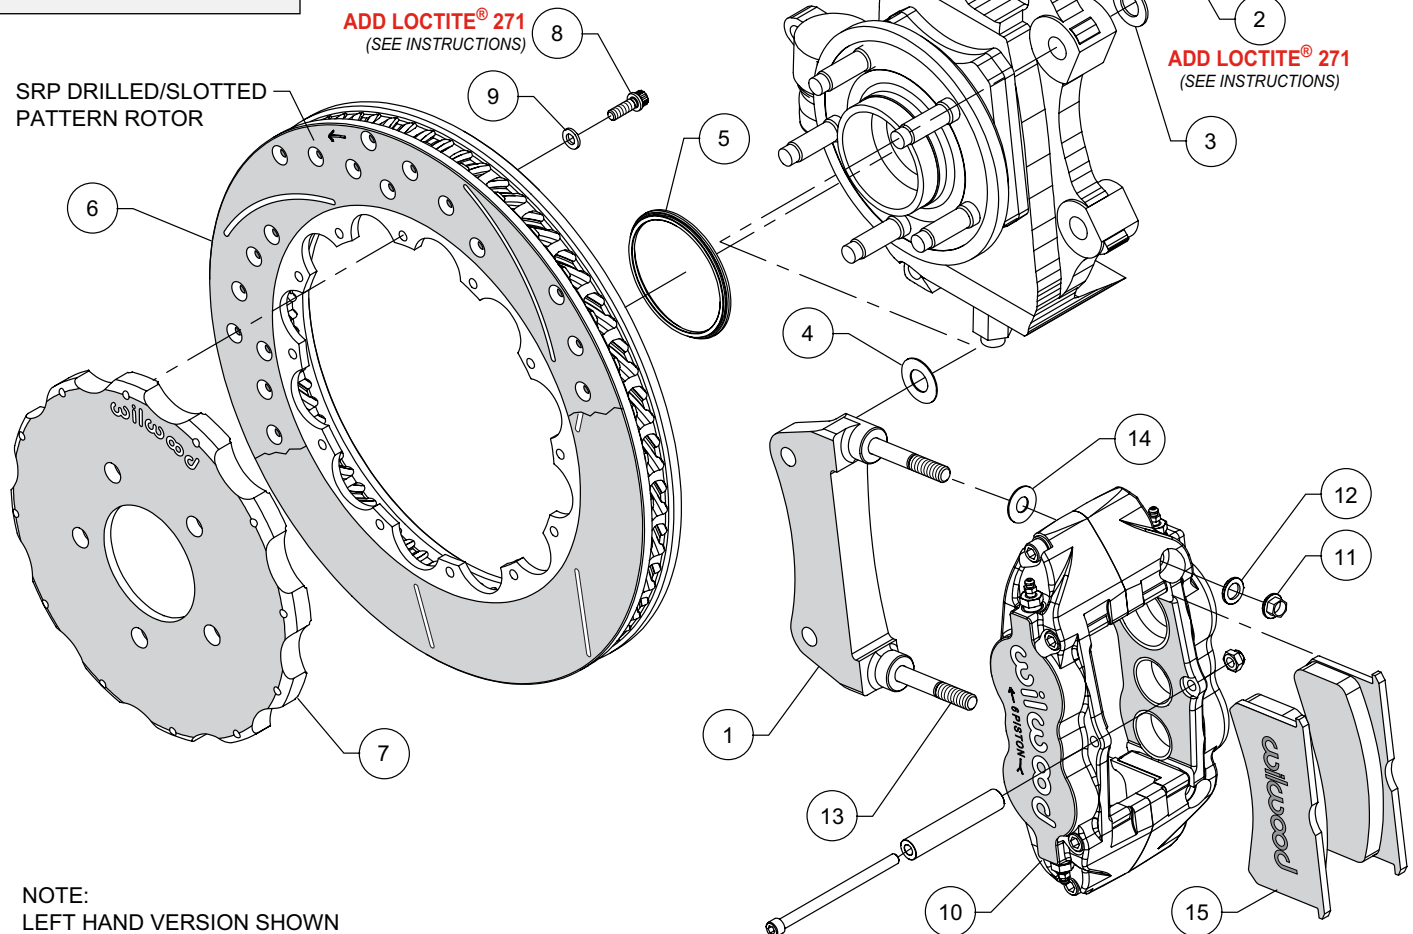
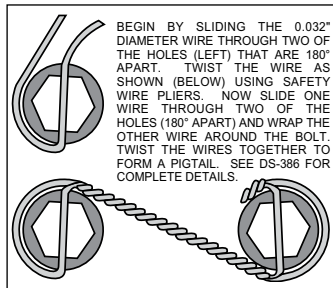

Figure 1. Typical Installation Configuration
Figure 3. Safety Wire Diagram
**Assembly Instructions** (numbers in parenthesis refer to the parts list and Figure 1 on the preceding pages):
- The caliper mount bracket (1) should initially be installed with clean, dry threads on the mounting bolts. Orient the bracket as shown in Figure 1 and Photo 1, and install using bolts (2) and washers (3). Initially place one .029 thick shim (4) on each bolt between the bracket and upright, Figure 1. Temporarily tighten the mounting bolts. **NOTE:** *The bracket must fit squarely against the mounting points on the upright.* Inspect for interference from casting irregularities, machining ridges, burrs, etc. Later, after the caliper alignment has been checked, the mount bolts will be secured using red *Loctite*® 271.
- Orient the rotor (6) and the hat (7) as shown in Figure 1 and Photo 2. Attach rotor to hat using bolts (8) and washers (9). Apply red *Loctite*® 271 to the bolt threads and torque to 155 in-lb using a criss-cross pattern. For an added measure of security, the bolts may be safety wired using standard 0.032 inch diameter stainless steel safety wire as shown in Figure 3. Please refer to Wilwood's data sheet DS-386 (available at [www.wilwood.com/Pdf/DataSheets/ds386.pdf](http://www.wilwood.com/Pdf/DataSheets/ds386.pdf)) for complete safety wire installation instructions.
- **NOTE:** *This kit contains distinct right and left hand calipers that must be mounted in a specific direction, as described below.* Initially place one .035" thick shim (14) on each stud (13) between the caliper and the bracket, as shown in Figure 1 and Photo 5. Mount the caliper (10) onto the bracket (1) using lock nuts (11) and washers (12), Figure 1. Ensure that the caliper is mounted so the largest pistons are at the rotor exit end of the caliper, in relation to the direction of rotor rotation. Temporarily tighten the lock nuts and view the rotor through the top opening of the caliper. The rotor should be centered in the caliper, Photo 6. If not, adjust by adding or subtracting shims (4) between the bracket and the upright. Always use the same amount of shims on each of the two mounting bolts. Once the caliper alignment is correct, remove the bracket mounting bolts (2) one at a time, apply red *Loctite*® 271 to the threads, and torque to 77 ft-lbs.